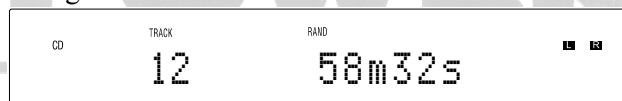

Figure 27
1. With the MCD350 in the STOP ■ Mode press the RANDOM Push-button. The word RANDOM will be indicated in the Front Panel Display. Refer to figure 27.